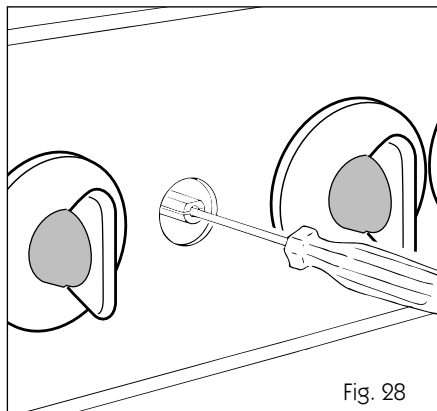

Fig. 28
- With a small flat screwdriver turn the screw inside the tap rod to the correct regulation (fig. 28).